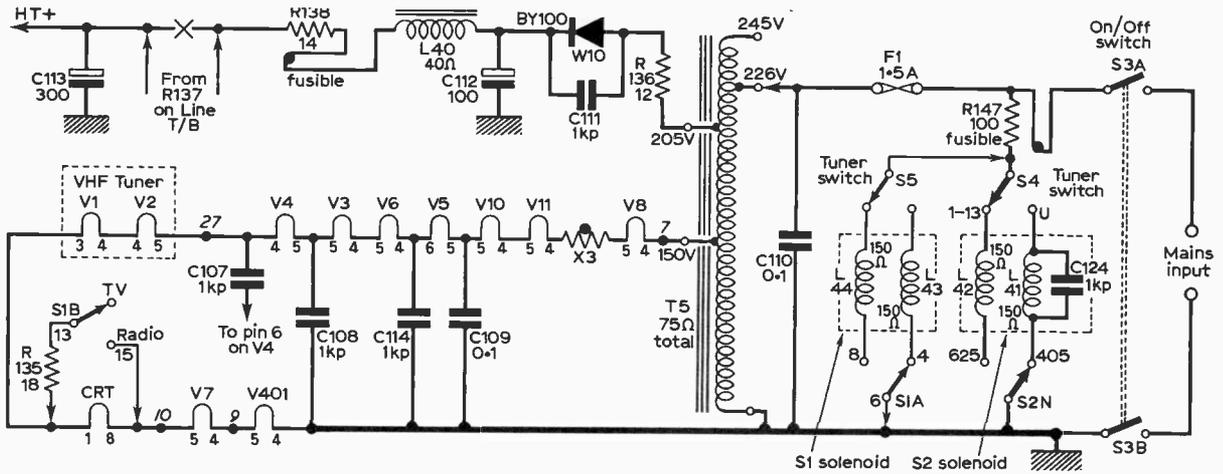

Fig. 1: The power supply circuit used in the basic 950 chassis.
Fig. 1 illustrates these points. Note first that as the colour information transmitted supplements the luminance information transmitted it must be able to indicate either positive or negative values so that in combination with the luminance signal we get a full range of red, green and blue primary-colour signal values—i.e. for a red tone for example we need to increase the output from the c.r.t.'s red gun whilst pulling back the outputs from the blue and green guns to negligible proportions. Thus as Fig. 1(a) shows the possible  $360^\circ$  phase variation of the subcarrier is used to indicate a negative blue colour-difference signal at the reference  $0^\circ$  point (in practice this is the complementary to blue, yellow), a positive red colour colour-difference signal at  $90^\circ$ , a positive blue colour-difference signal at  $180^\circ$  and a negative red colour-difference signal (in practice cyan) at  $270^\circ$ . These are shown superimposed on the standard chromaticity diagram. Now suppose the colour seen by the camera at a particular point is represented by an R-Y signal sinewave of 0.2 amplitude and a B-Y sinewave of 0.4 amplitude in quadrature as shown in Fig. 1(b). The resultant obtained by adding them is a sinewave of 0.45 amplitude  $64^\circ$  behind the R-Y sinewave and  $26^\circ$  in advance of the B-Y sinewave. The equivalent phasor diagram is shown in Fig. 1(c).
The chrominance synchronous demodulators in the receiver decoder are in effect switched on once each subcarrier cycle by the 4.43MHz reference signal generated in the decoder. Each time they are switched on they sample the amplitude and polarity of the chrominance signal at that instant. They operate in quadrature, i.e. the B-Y synchronous demodulator is switched on  $90^\circ$  after the R-Y demodulator, and the reference signal used for this purpose is synchronised to the subcarrier at the transmitter by the burst signal transmitted for that purpose during the sync pulse back porch (more about that later). In the case of the resultant shown in Fig. 1(b) and (c) it can be seen that when the R-Y demodulator switches on at the R-Y axis ( $90^\circ$ ) it will measure +0.2 while when the B-Y demodulator switches on at  $180^\circ$  it will measure +0.4. The original signal values and polarities are thus recovered.
This technique of modulating the chrominance subcarrier phase in order to represent different colours is a neat part of the way in which the colour information is contained within the same channel bandwidth as a monochrome transmission. It has the disadvantage however that phase shifts, which can and do occur in the complex signal path between the camera or videotape recorder and the receiver, will result in incorrect colours being reproduced unless steps are taken to overcome this effect. Correction is not built into the NTSC system, which is thus subject to this trouble. To see what can happen, suppose that in our example there is a phase shift of  $20^\circ$  as shown in Fig. 1(d). Now when the R-Y demodulator switches on it will produce a signal reduced to 0.05 whilst when the B-Y demodulator
Fig. 1: How the phase of the chroma subcarrier is used to indicate the colour being transmitted. (a) Colour-difference signal phase angles superimposed on the standard chromaticity diagram. (b) Two amplitude-modulated colour-difference signal subcarriers in quadrature add to give a resultant which varies in phase and amplitude. Note that the resultant sinewave passes through the peaks of the constituent sinewaves: thus if the resultant is sampled at the appropriate instants the peak values of the two original sinewaves will be recovered. (c) Vector representation of the sinewaves shown in (b). (d) Effect of a spurious phase shift: unless steps are taken to overcome this the amplitude of one demodulated colour-difference signal will increase while that of the other one will decrease, causing a noticeable change of colour.
The basic power supply circuit used in the 950 chassis is shown in Fig. 1. The mains is fed through fusible resistor R147 contacts to a solenoid (there is an extra solenoid in plus-f.m. radio versions) which operates the system switch. The solenoid operates only momentarily, throwing the multicontact switch strip into the 405- or 625-line position as selected by the channel change knob. Note that if an overload should result in the fusible resistor spring opening there will be no mains supply to the rest of the receiver. Thus the symptoms of no life, not even a heater glowing, and the mains fuse F1 intact should draw attention to R147: the soldered joint has probably melted and the contacts parted.
The cabinet was simply built using five pieces of  $\frac{3}{4}$ in. plywood with strips of 1 x 1in. timber in the corners—see Fig. 1. This gives adequate strength with minimum obstruction inside. The tube was fastened to the front with push-through presentation in the usual way.
Fig. 1: Cabinet corner joint. (1) 1 x 1in. timber glued and screwed into corner. (2) Veneers fitted with top overlapping side pieces to give a neater joint. (3) Main cabinet consists of  $\frac{3}{4}$ in. plywood. (4) Bolt and locknut for chassis, transformer, etc., fitted before veneering.